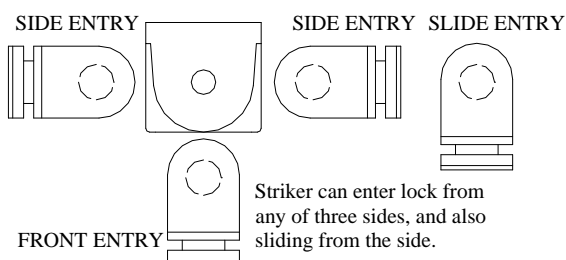

Figure 3
**SIDE ENTRY OF STRIKER** (see FIG 3)
**FRONT ENTRY OF STRIKER** (See FIG 3)